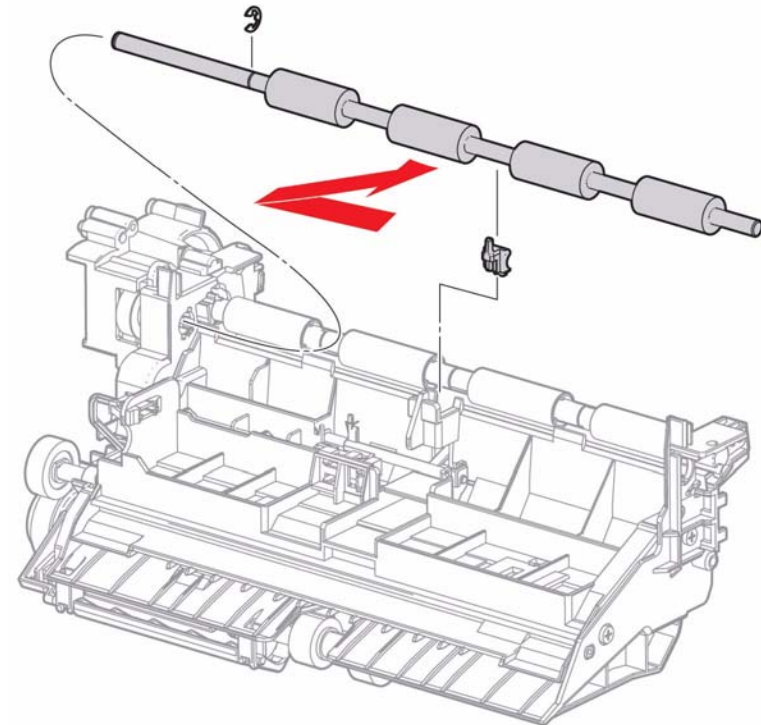

Figure 1 Remove the Rubber Roller Assembly
3. Refer to Figure 1 to locate and remove the E-ring, and then remove the Rubber Roller Assembly together with the Center Registration Bearing in the direction of the arrow.